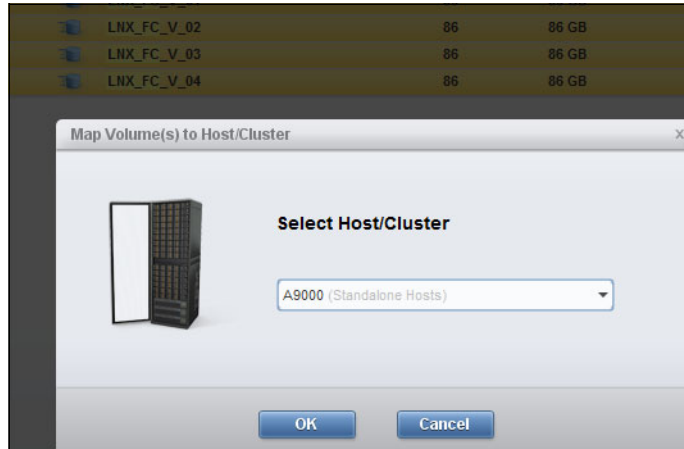

Figure 8-15 Mapping the volumes to IBM FlashSystem A9000
6. Select the volumes to be mapped (the volumes that were earlier mapped to the actual host), as shown in Figure 8-15, and click **Map**.